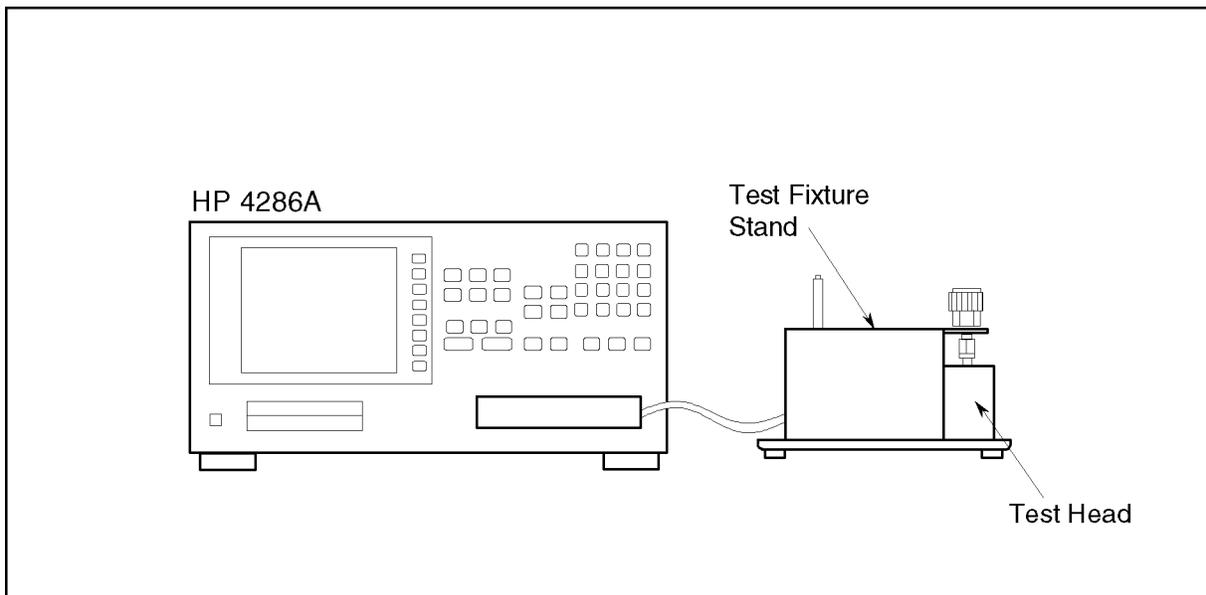

Figure 9-2. Test Head Diagnostic Test Setup
- b. Connect the test head to the mainframe, and connect the APC3.5(m)-APC7 adapter to the test head using the test fixture stand as shown in Figure 9-2.